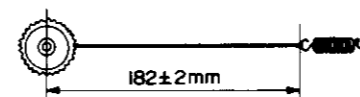

Fig. 3
- Note:** When tying the dial cord to the middle gear, cut the knot so that it does not protrude from the line "a" in Fig. 3.